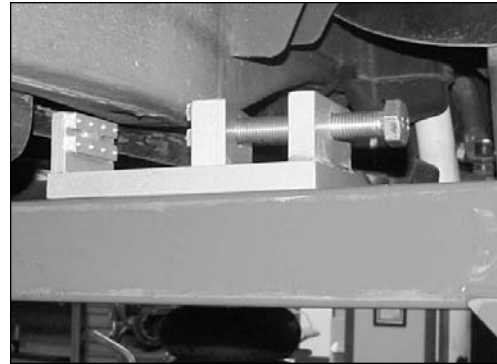

Figure 16
1. Position rail vise on top of the crossbar directly below the boxed rail. (See Figure 16.) If extra height is needed, position appropriate size spacer (or 3 inch riser bar) between crossbar and rail vise. If using the 3 inch riser bar, insert tie back bracket between rail vise and top of riser bar. (See **Special Pulling Situations** below.)